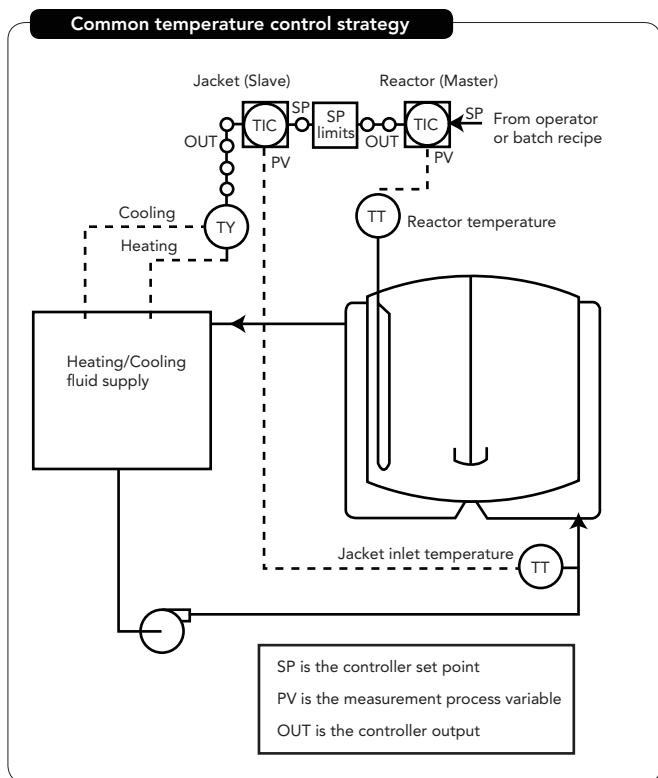

Figure 1. Various split-range (TY) configurations can be used to regulate jacketed glass-lined batch reactors.
Figure 1 shows a common control system for glass-lined batch reactors where the slave loop operates on the jacket inlet temperature to protect the lining. The heating/cooling supply can have various split-range (TY) configurations such as control valves to hot/cold headers (which we'll call Case 1), control valves to steam and chilled-water heat exchangers (Case 2) and control valve on the chilled fluid and variable electrical heating (Case 3). Here, we'll look at some challenges and opportunities based on real data from three such reactors as seen
Complex control systems have been developed to handle various reactor hardware, specific types of chemical reactions and production constraints [1]. For the fastest possible set-point response, you may want to consider a nonlinear control strategy as described in Ref. 2. However, for reactors controlled by simple cascade strategies (Figure 1),
a circulating pump as shown in Figure 1.
More-advanced tools are helpful for some situations. For instance, if the temperature process response has elements of both self-regulating and integrating dynamics, a different tuning rule is needed. When there're significant nonlinearities in the control logic (for example, the SP limiter block in Figure 1), a nonlinear computer simulation can accelerate finding the best controller parameters — today's control systems come with built-in simulation tools. In some cases a Fuzzy Logic Controller (FLC) can give control superior to PID. When there's no jacket but only electrical heating of the reactor, the FLC can provide the fastest possible